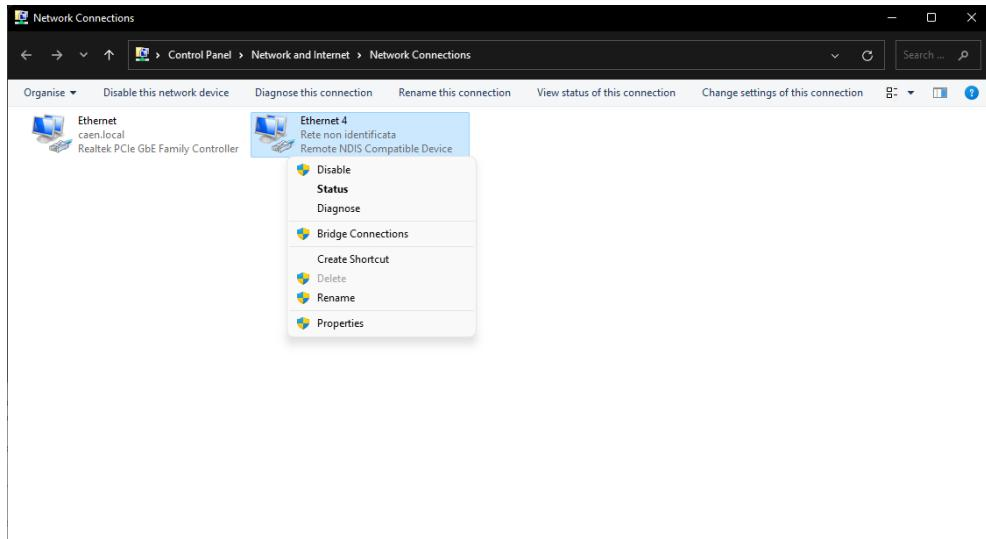

Fig. 8.11: Property window of the Ethernet network.
- c. Right click on the Ethernet icon and select "Properties", as in **Fig. 8.11**.